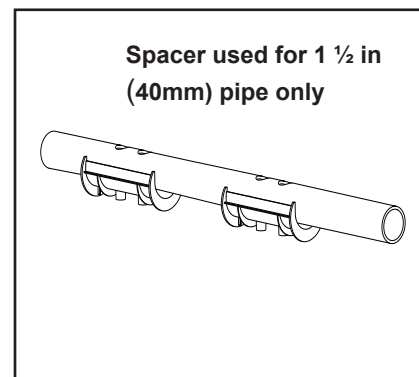

Figure 9. Pipe Spacer
8. Use the pipe spacer as shown if mounting on a 1½ in. (40 mm) pipe (see Figure 9).